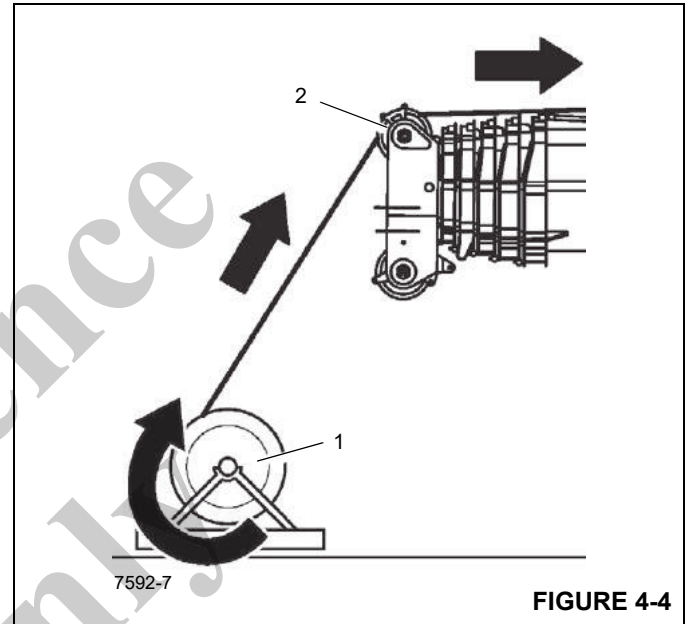

FIGURE 4-4
2. Place the reel stand (1) (Figure 4-4) with the new cable in front of the main boom head.
3. Guide cable over the head sheave (2) (Figure 4-4) up to the hoist drum.